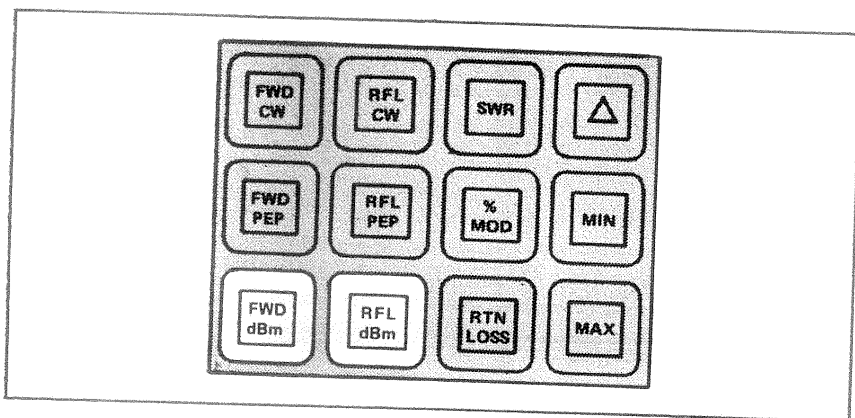

Figure 3-6. CW Power in dBm.
f. **Measuring Power in dBm.** (Figure 3-6.) Operation of the forward and reflected dBm modes is identical to the forward and reflected CW power modes, except that the resulting reading is converted to dB above 1 milliwatt before it is displayed. It should be noted that in doing this conversion, the range set on the slide switches is assumed to be watts rather than kilowatts or milliwatts. If it is not, 30.0 must be added to all dB readings when the range is in kilowatts, or subtracted from all readings when it is in milliwatts. An error message is displayed if CW power is more than 24dB below, or peak power is more than 6dB above the nominal element range. Refer to Table 3-3.